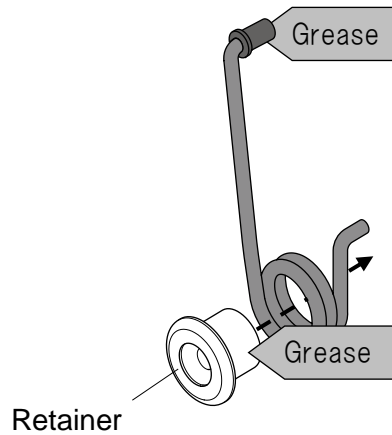

Fig. 12
3. Apply grease to the periphery of the retainer and the guide on spring (Fig. 12).